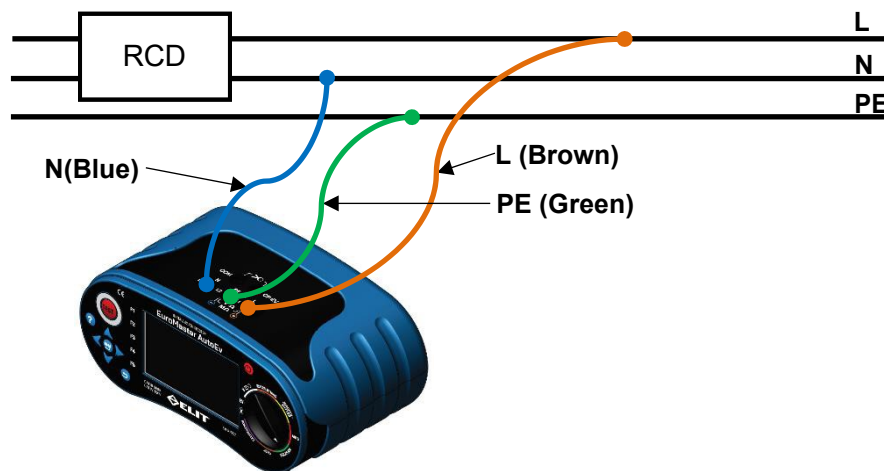

Figure 6.5.1 Loop / No Trip Connection.
- Connect the test leads as shown in Figure 6.5.1.